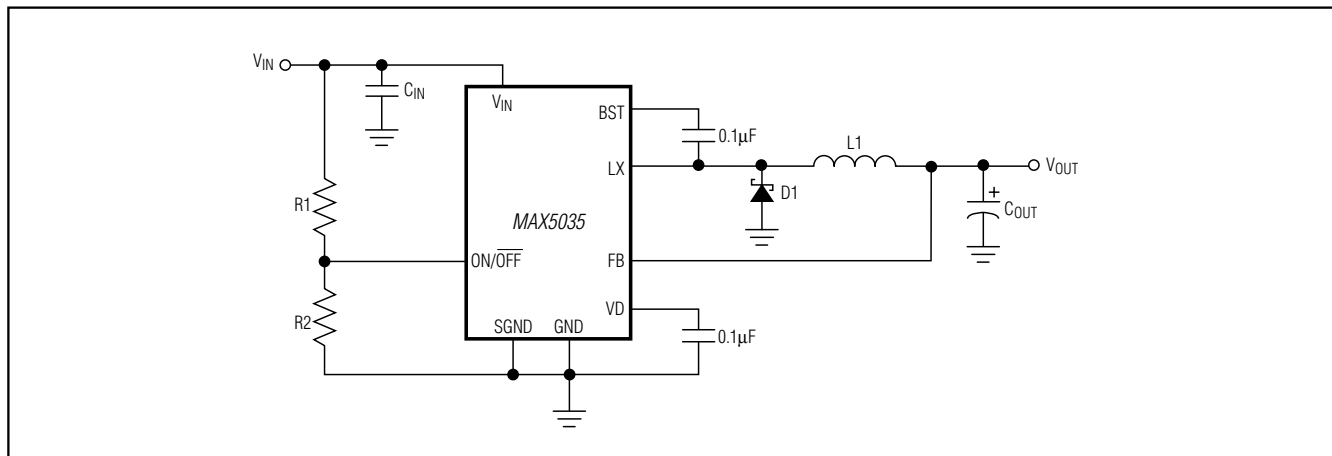

Figure 2. Fixed Output Voltages
**Table 2. Typical External Components Selection (Circuit of Figure 2)**
Table 2. Typical External Components Selection (Circuit of Figure 2) (continued)